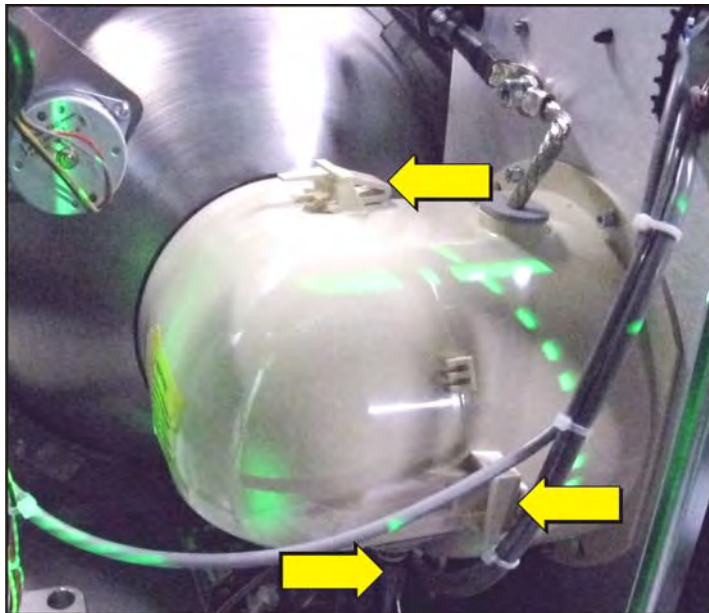

Figure 5-55 Front Lamp Duct
- a. Remove the cathode lamp duct via the three clips. (Figure 5-55)